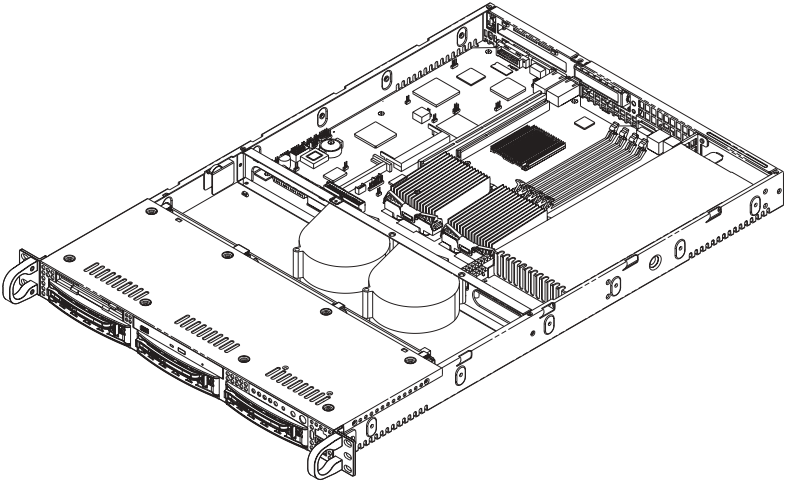

Figure 2-5. Accessing the Inside of the SuperServer 6012P-8
1. Accessing the inside of the 6012P-8 (see Figure 2-5):